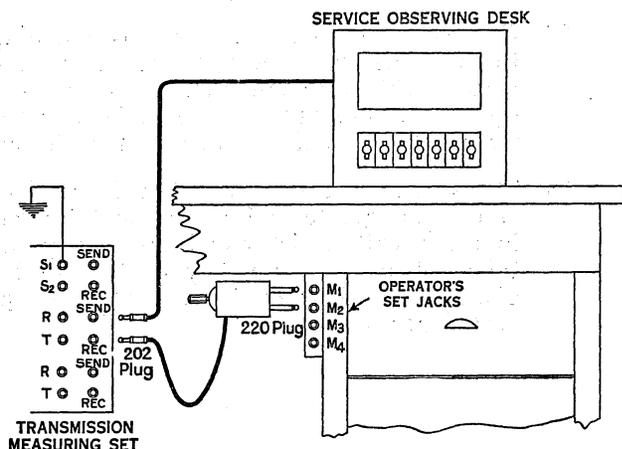

Figure 1
2.02 Figure 1 shows schematically the connections for the test.